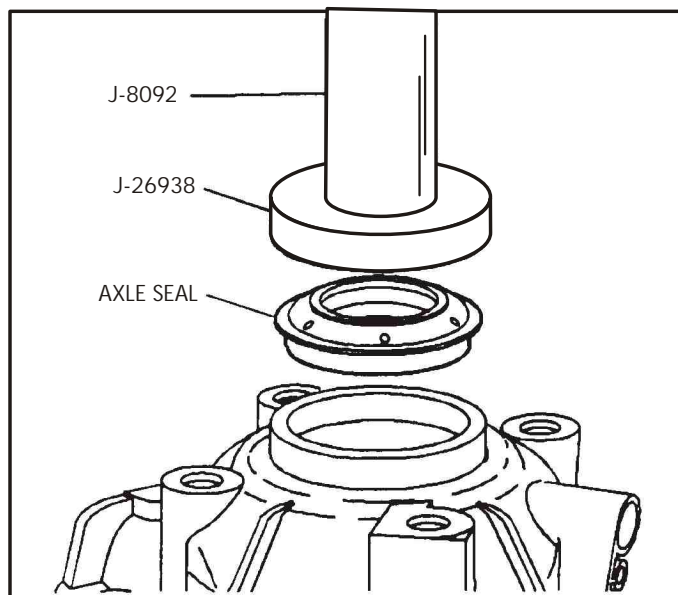

Figure 152
26. Install new axle seal into final drive housing if not already done, using the installation tools shown in Figure 152.